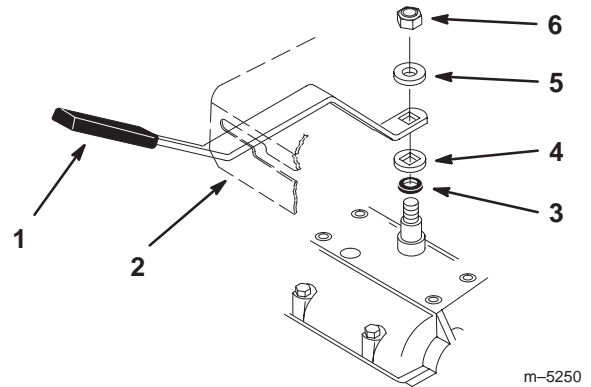

Figure 13
- Slide the shift lever plate over the shift lever (Fig. 13).
- If clearance is not correct, remove lever and bend it slightly to adjust (Fig. 13).